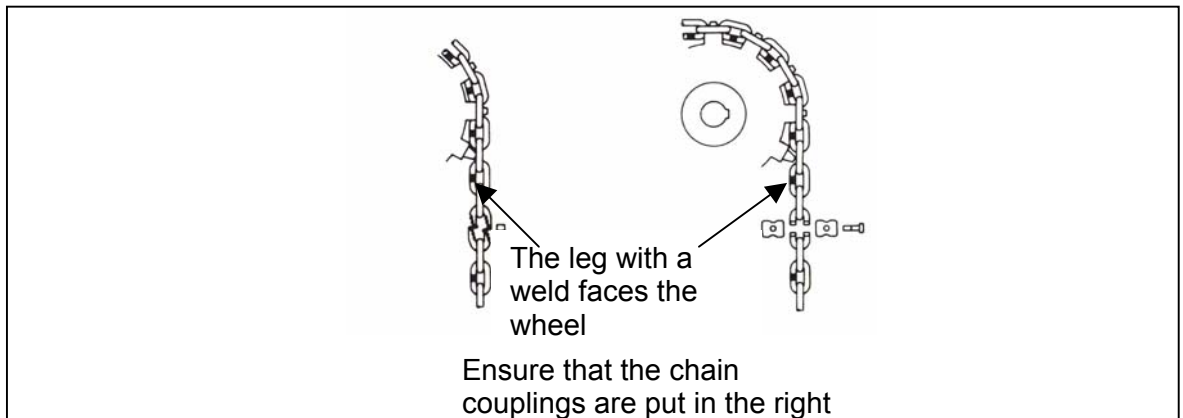

Fig. 2
4.4 Pull the connected chain strands into the system (figs. 2 & 3).
The welds in the vertically arranged links must face the centre of the wheel when they pass over the sprocket wheels and chain wheels (figs. 2 & 3). Otherwise, bending and tensile stresses could lead to the welds breaking.